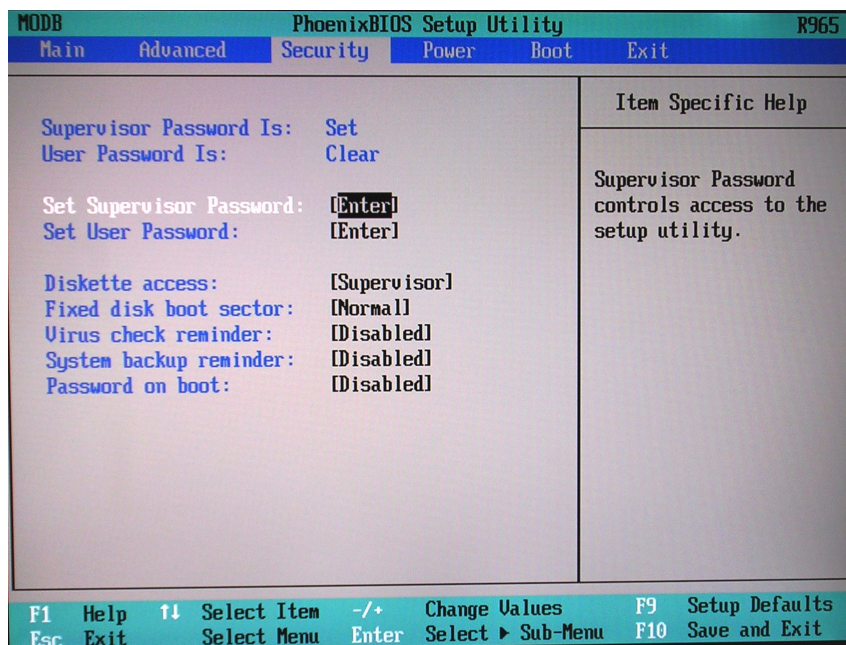

Figure 8-121 BIOS Security Parameters
Security	Figure 8-121 on page 8-120
- 3.) Set the parameters in the **Security** screen as shown above in Figure 8-121.